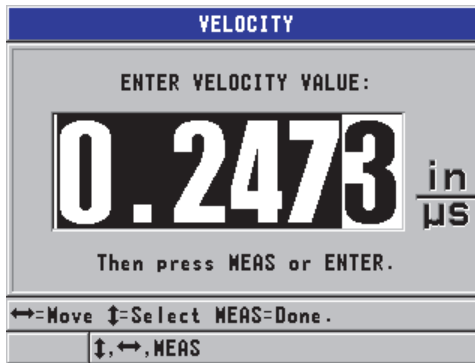

Figure 5-9 Entering a known material sound velocity
2. In the **VELOCITY** screen (see Figure 5-9 on page 60), use the arrow keys to edit the velocity to the known value.